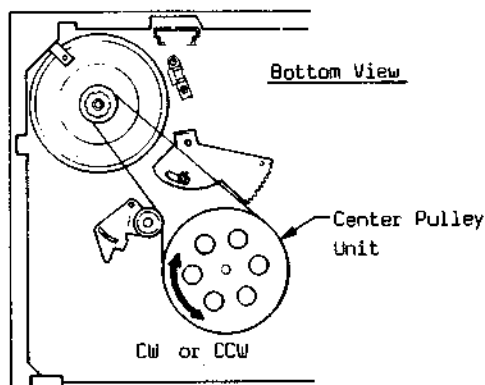
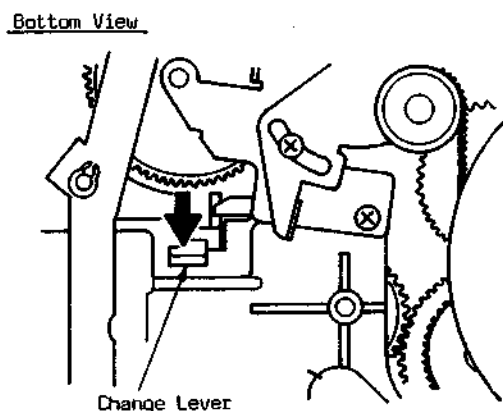

Fig. 2
Fig. 3
- Rotate the center pulley (Fig. 2) counterclockwise while pushing the change lever on the bottom side of the tape deck (Fig. 3) as indicated by the arrow to release the lock. See also the relevant chapter in tape deck manual DM 4/0.